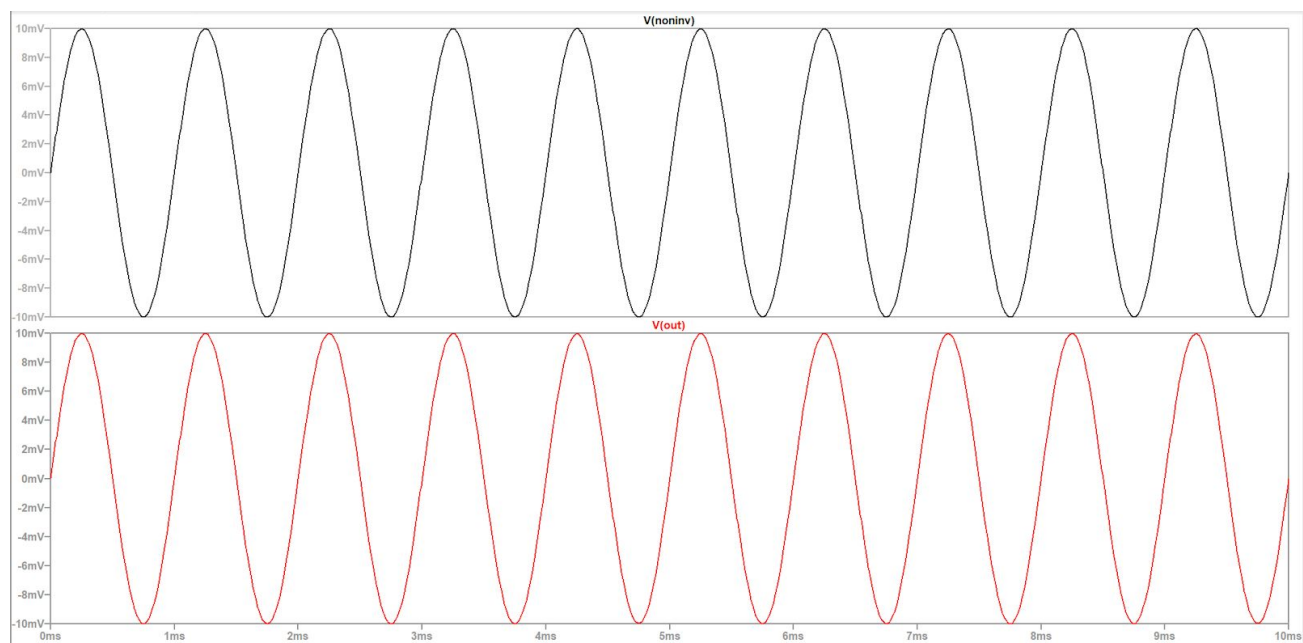

**Fig.15:transient response of Non-inverting configuration with  $R_2=449\text{ k}$  and  $R_1=1\text{K}$  And input signal amplitude = 10 mV**
- c. With clipping when  $1+R_2/R_1=500$  and input signal with amplitude 10mV(Fig.15)